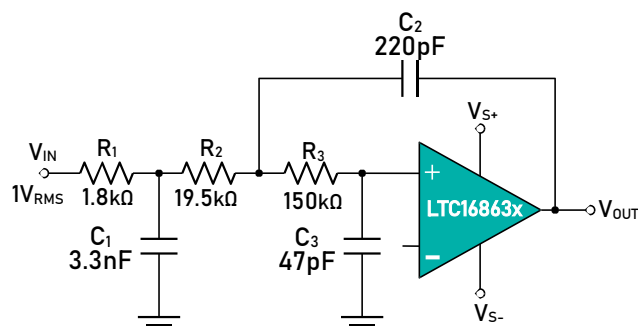

Figure 6: Configure as a Three-Pole, 20-kHz, Sallen-Key Filter
3. using a non-inverting filter topology, such as the Sallen-Key (shown in Figure 6).